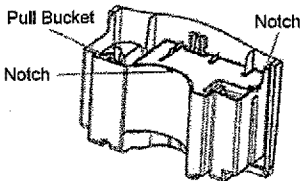

Fig. 2
2. Gently pull at the back and front of the bucket to dislodge the bucket cover from the notches. (Fig. 2)
2. Carry the bucket by grasping the front corner of the bucket with one hand and the back of the bucket with the other hand (Fig. 2)